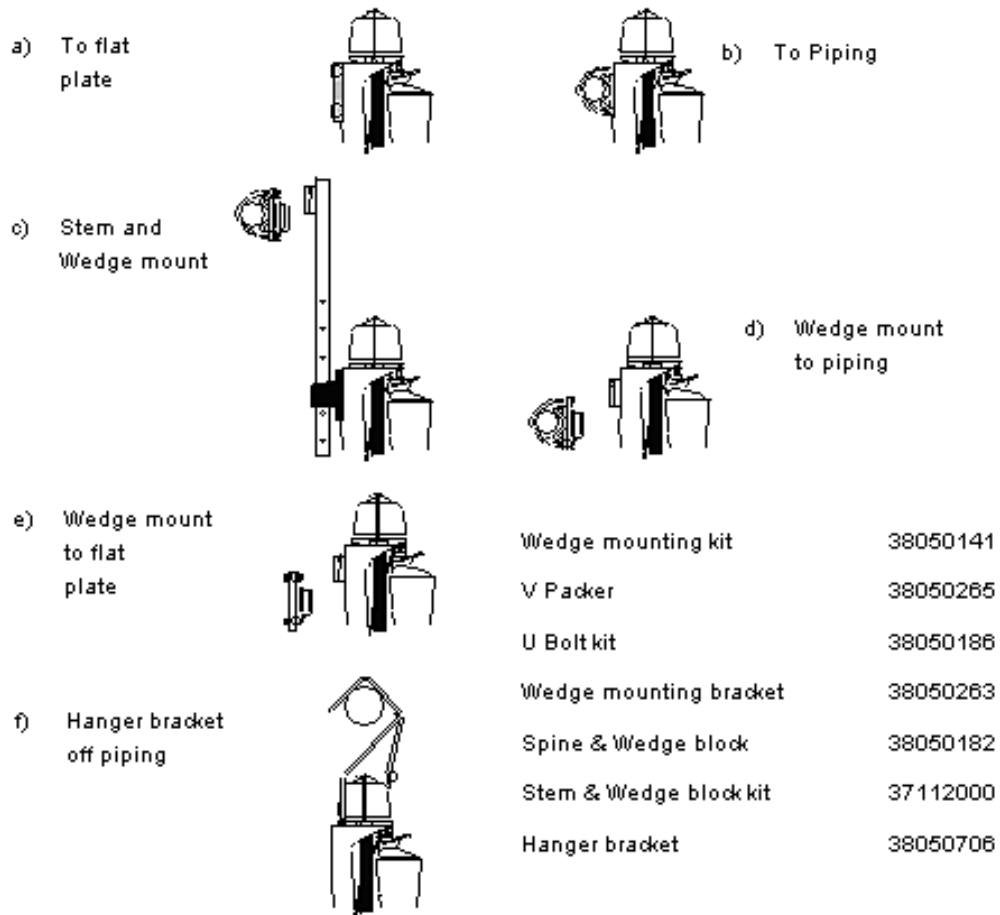

Fig 3.2 Milk Meter Mounting Options
3.4. MOUNTING OPTIONS (ref to Fig 3.2)
- Wedge Mounting Set (Fig 3.2 d and e) for flat surfaces or piping.
- Hanger bracket (Fig 3.2 f) off piping.
The Milk Meter should be mounted rigidly enough (refer Fig 3.2) so that cow or other movement does not pull the meter base away from horizontal. A tolerance of $\pm 5^\circ$ is acceptable.